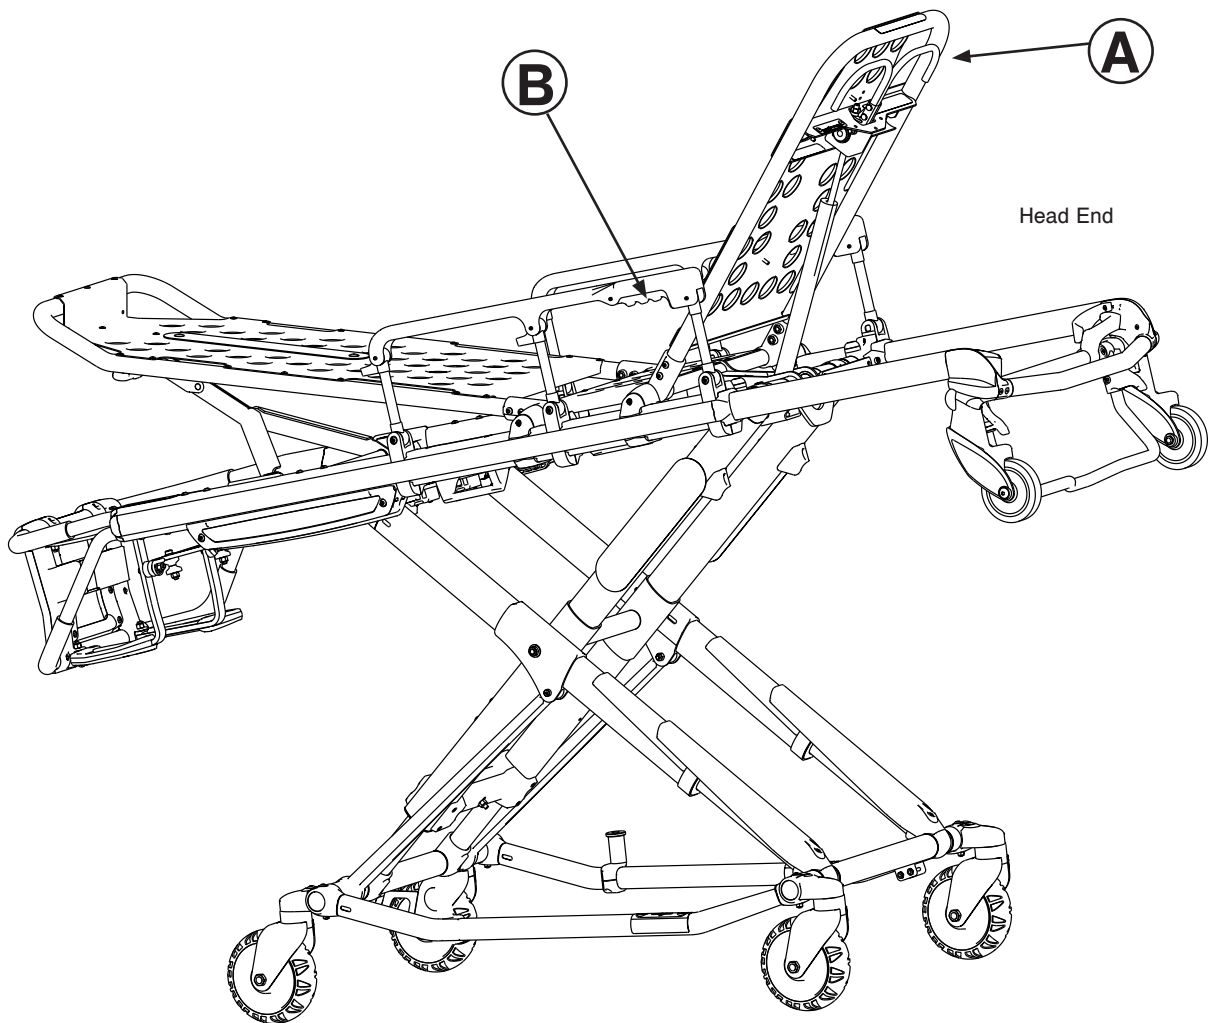

Figure 29: Backrest Elevated and Siderails Raised
To raise the siderails, as shown in Figure 29, lift up on the siderail until the latch clicks and the siderail locks into place.
To raise the backrest, as shown in Figure 29, squeeze handle (A) for pneumatic assist in lifting the backrest to the desired height.